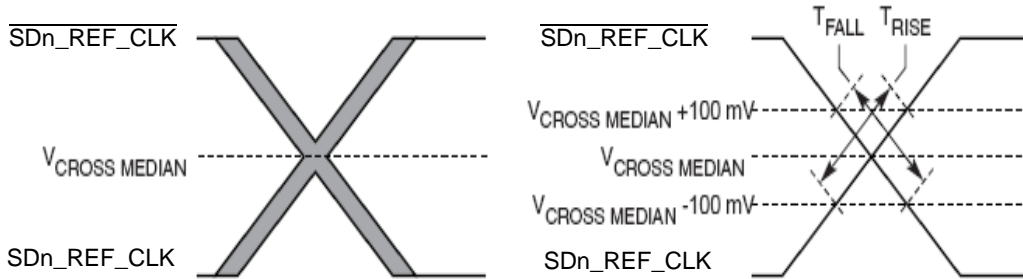

Figure 47. Single-Ended Measurement Points for Rise and Fall Time Matching
4. Matching applies to rising edge rate for SDn_REF_CLK and falling edge rate for $\overline{SDn_REF_CLK}$. It is measured using a 200 mV window centered on the median cross point where SDn_REF_CLK rising meets $\overline{SDn_REF_CLK}$ falling. The median cross point is used to calculate the voltage thresholds the oscilloscope is to use for the edge rate calculations. The Rise Edge Rate of SDn_REF_CLK should be compared to the Fall Edge Rate of $\overline{SDn_REF_CLK}$, the maximum allowed difference should not exceed 20% of the slowest edge rate. See Figure 47.